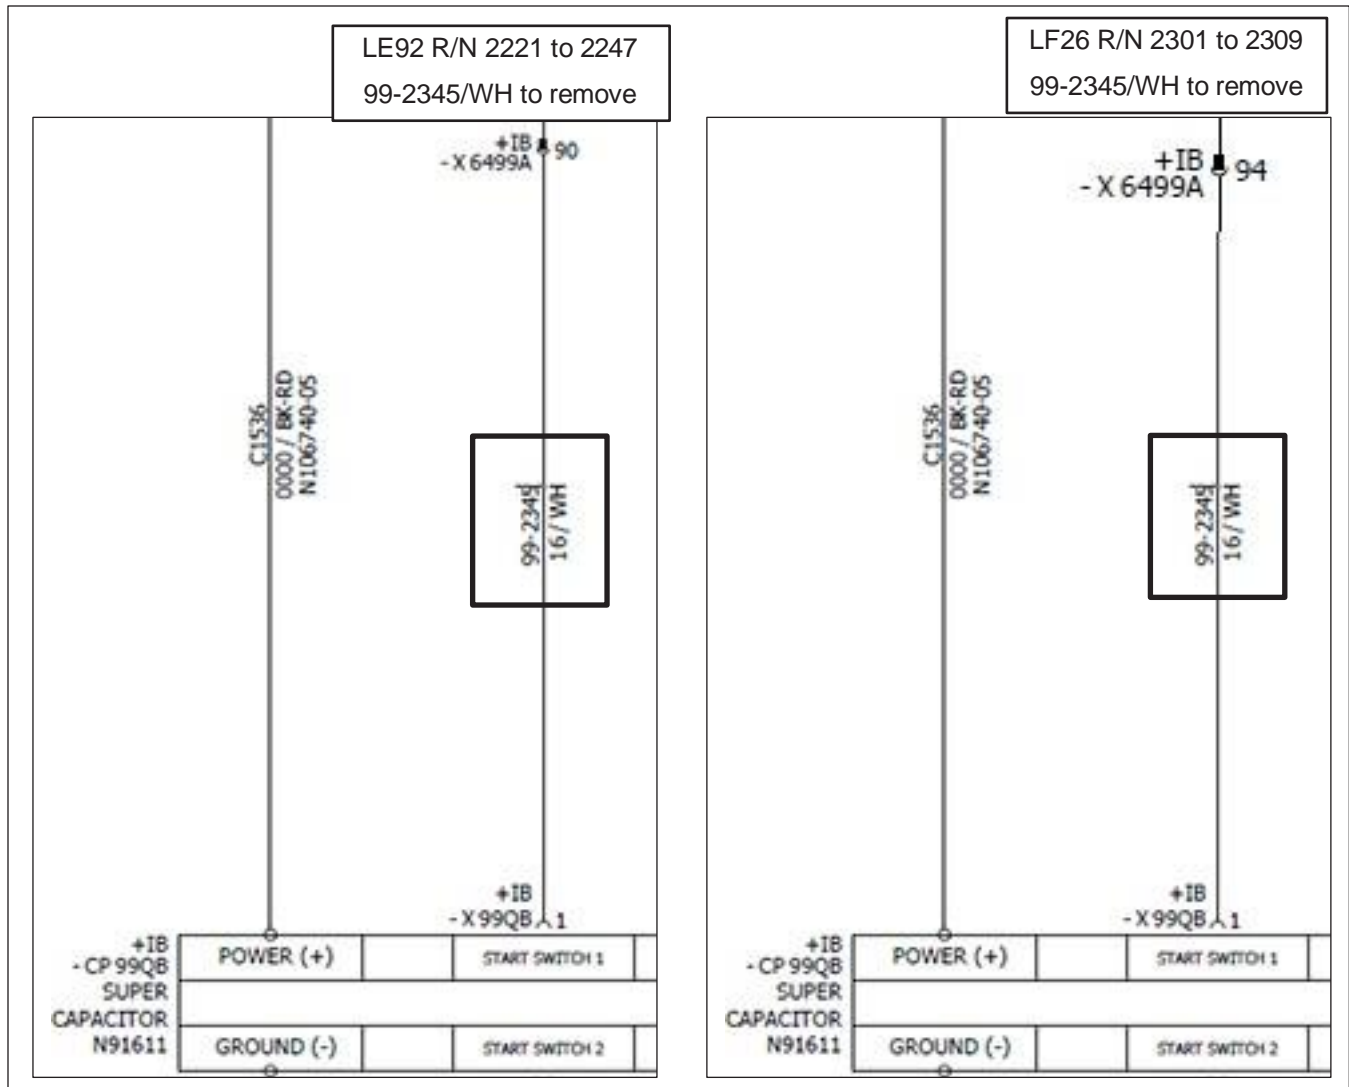

Figure 5 - Wire 99-2345 to remove
1.14. Remove and tapeback wire 99-2345/WH from connector IB-X99QB and IB-X6499A. See Figure 5.